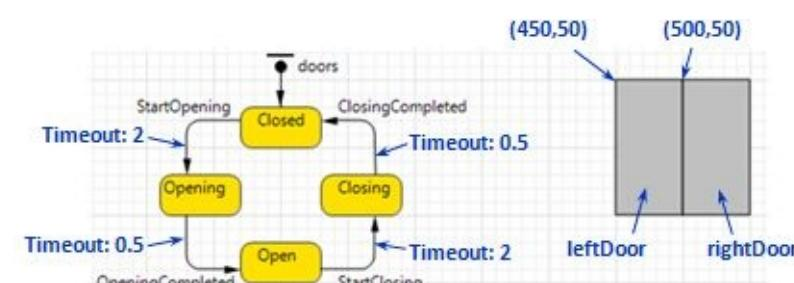

Figure 12.32 The statechart and animation of the elevator doors
1. Draw a statechart with four states and four transitions as shown in Figure 12.32 below. The name of the statechart should be *doors*.
4. Draw the two rectangles as shown in Figure 12.32. The location and sizes are important and should be exactly as shown.